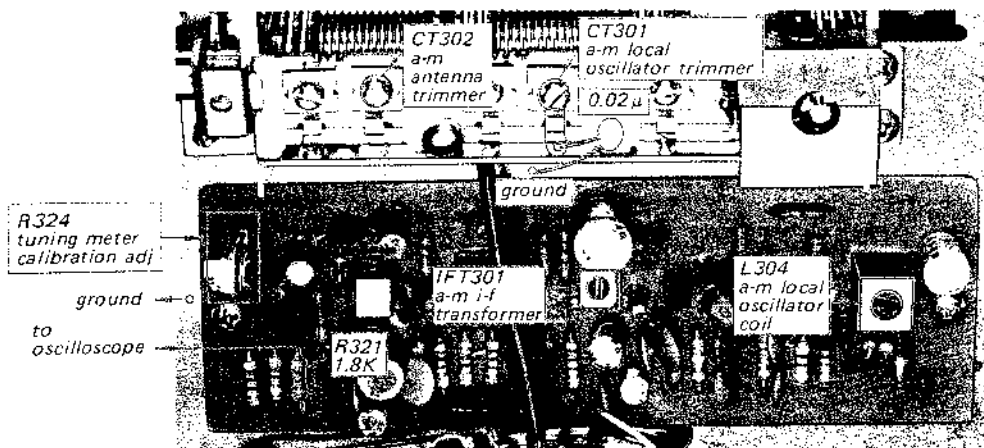
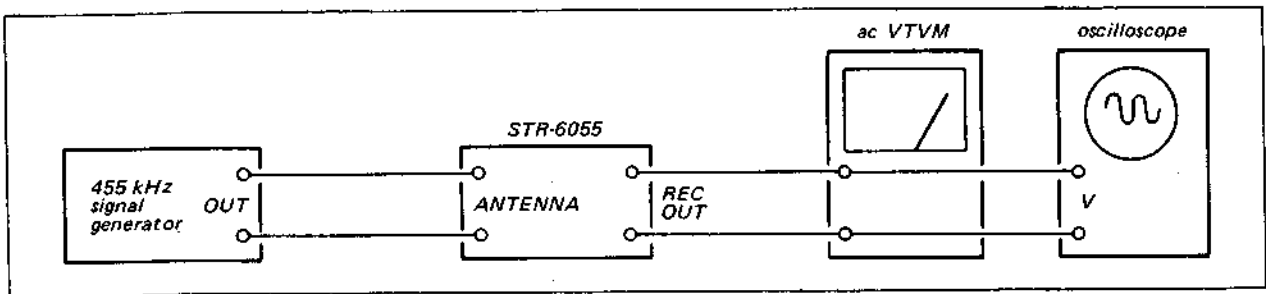

Fig. 3-9. Disabling the a-m local oscillator, a-m detector output connection and adjustment parts location
Fig. 3-11. A-m i-f strip alignment test setup by rf signal generator
Note: To perform this alignment, the local oscillator should be killed. To do this, shunt the local oscillator capacitor with a 0.02 μ F capacitor as shown in Fig. 3-9.
2. Connect the input cable of the oscilloscope to R321 (see Fig. 3-9) and ground on the a-m cp/i-f amp board with alligator clips as shown in Fig. 3-9.
5. Turn the top core of IFT301 (see Fig. 3-9) to obtain a maximum and symmetrical response as shown in Fig. 3-8.
3. With the equipment connected as shown in Fig. 3-11, turn the top core of IFT301 (see Fig. 3-9) to obtain maximum output.
EP Model Serial No. up to 553,000 } See Fig. 3-9.
See Fig. 3-9.
* **Note:** R324 (see Fig. 3-9)